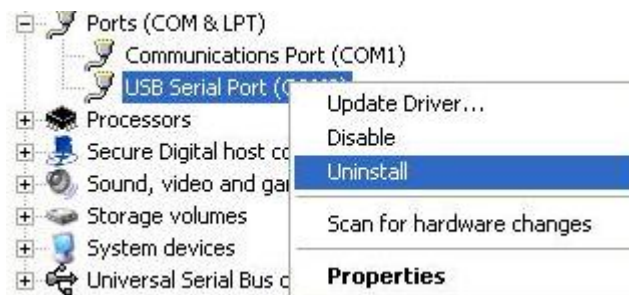

Fig.4.1.1 Uninstall USB Serial Port
- 2) Open the device manager (see Step (8) in Chapter 3.1.2). Right-click on the “USB Serial Port” and select “Uninstall”, as shown in Fig. 4.1.1 below.